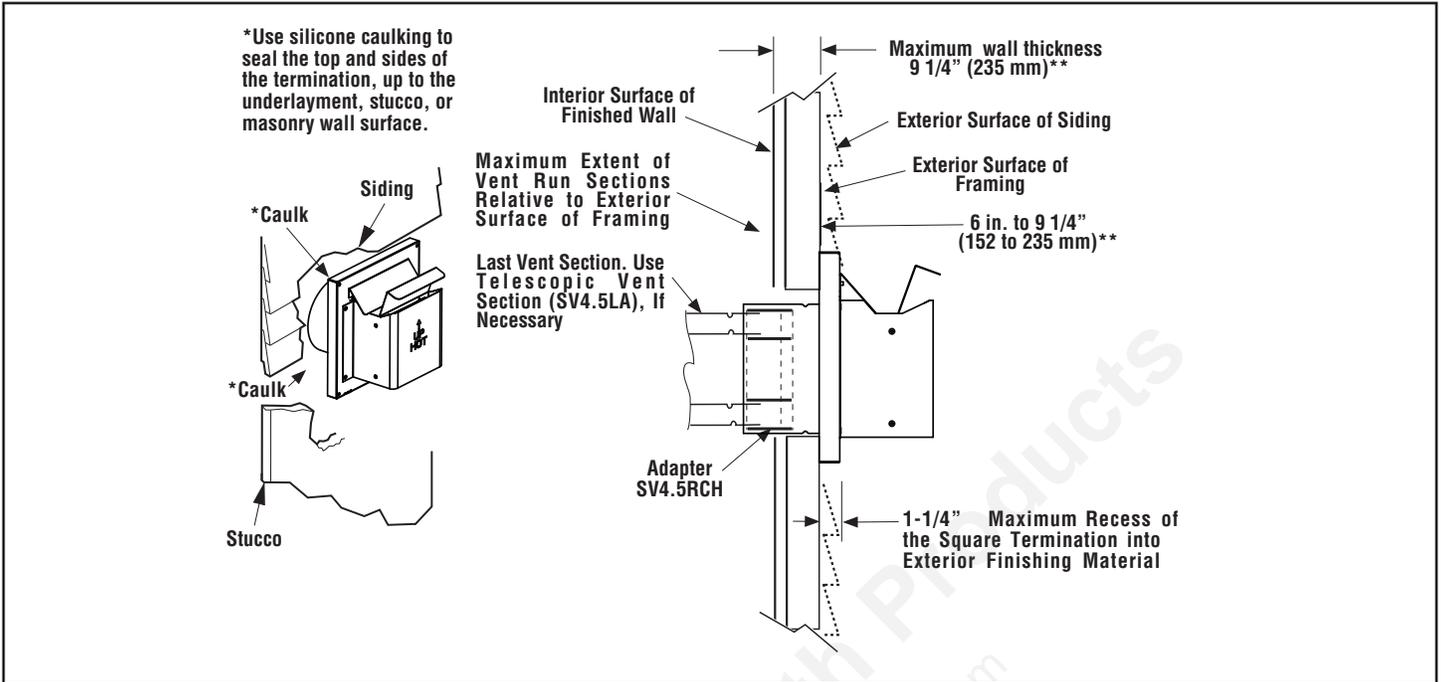

Figure 10 - Venting Connection and Exterior Wall Recessing of the Horizontal Compact Termination (SV4.5HTKCT)
- 13. Install the termination (SV4.5HTKCT)—** From outside the exterior wall, slide the collars of the termination onto the adaptor (the outer over the outer and the inner inside the inner) until the termination seats against the exterior wall surface to which it will be attached. Orient the housing of the termination with the arrow pointed upwards. Secure the termination to the exterior wall. The horizontal termination must not be recessed into the exterior wall or siding by more than the 1 1/4" (32 mm) (Figure 10, page 14).
NOTE: See Figure 10 for wall thickness ranges when using SV4.5HTKCT termination kit.